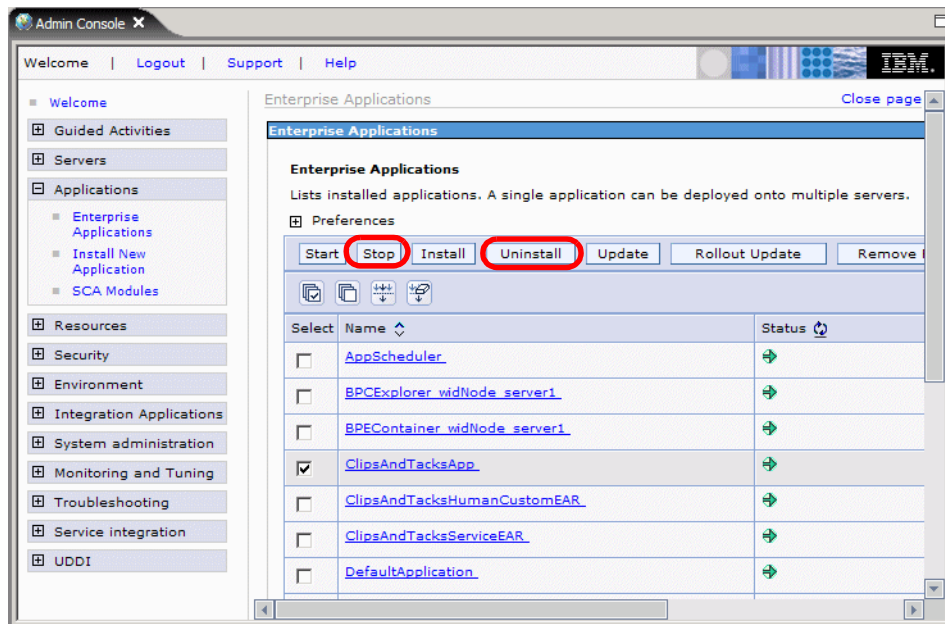

Figure 9-60 Administrative console: Installed applications
- ▶ Expand *Applications* and select *Enterprise Applications*. The list of installed applications is displayed (Figure 9-60).